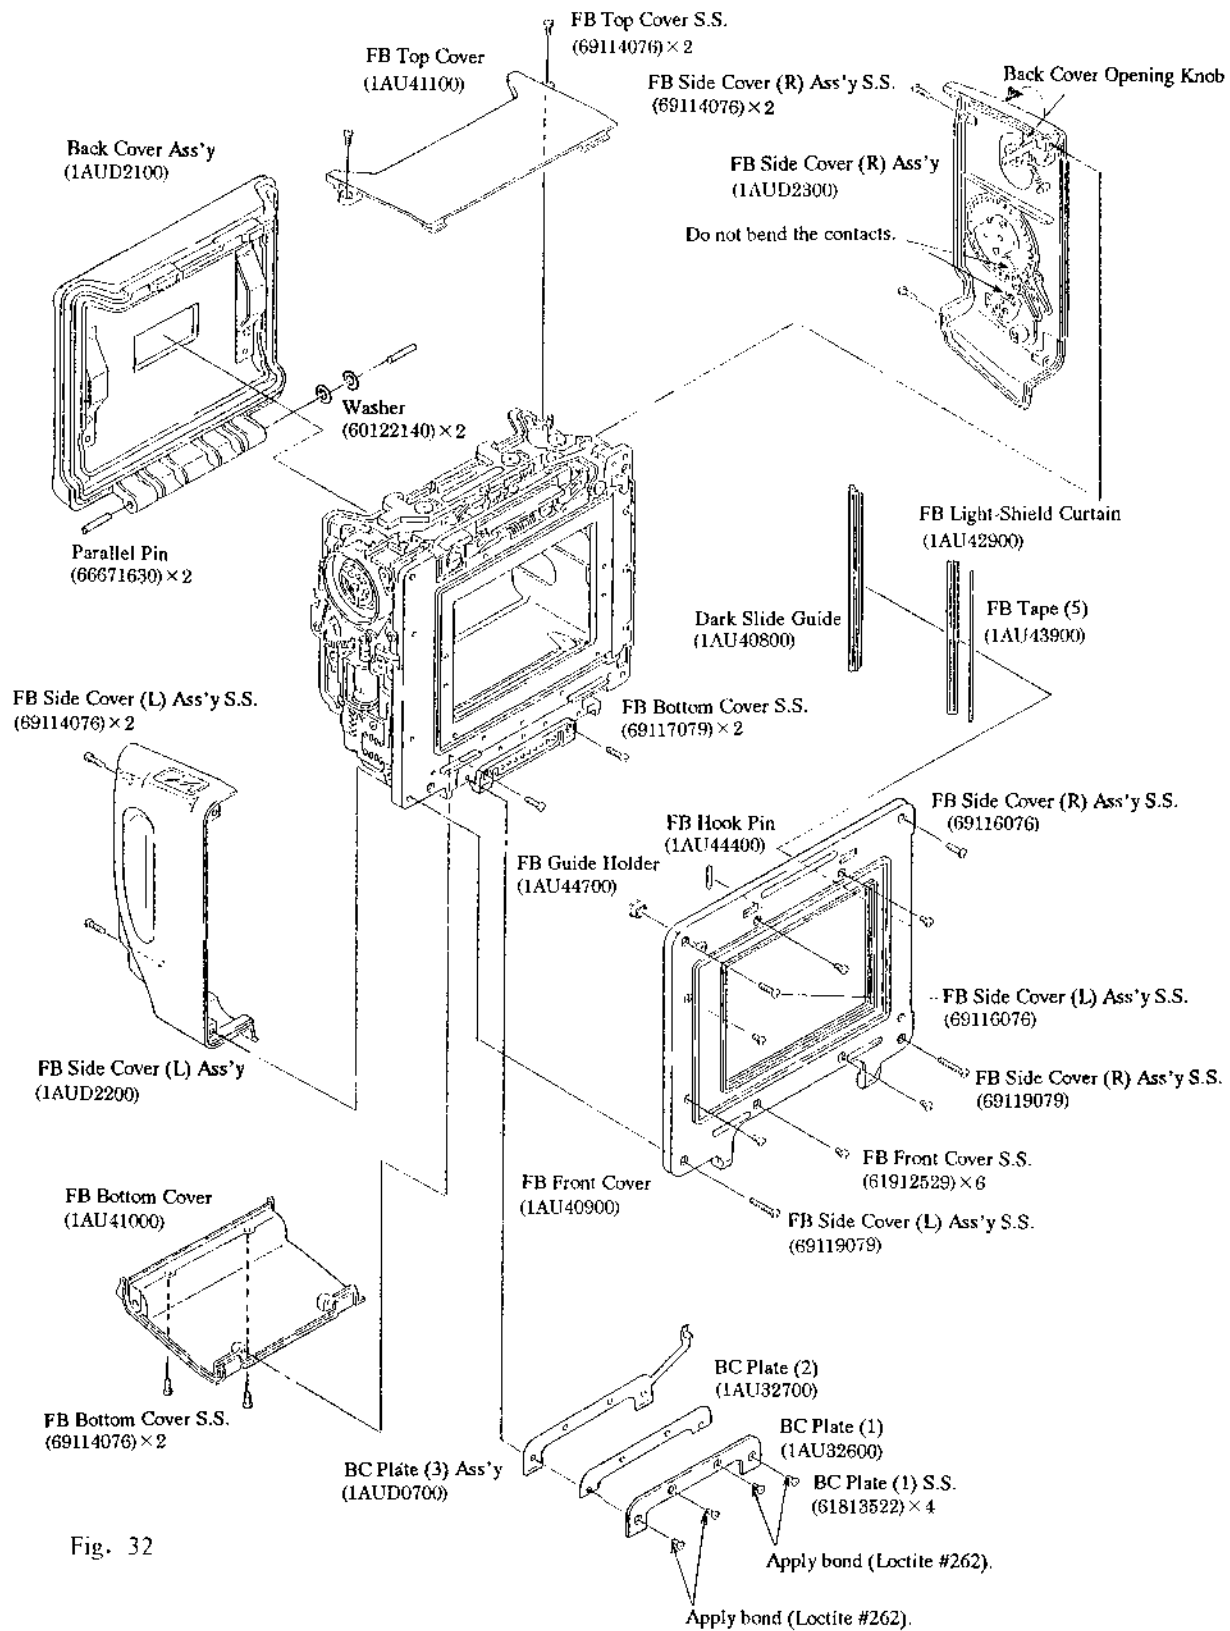

Fig. 32
- 1) While pushing the pin of the BC Plate (2) Ass'y with tweezers or the like, pull out the Dark Slide (1AU40100). (See Fig. 32)
- 2) Remove the FB Side Cover (R) Ass'y Setscrews (69119079), (69116079).
- 4) Remove the FB Side Cover (R) Ass'y Setscrews (69114076)  $\times$  2 and take off the FB Side Cover (R) Ass'y (1AUD2300).
- When the FB Side Cover (R) Ass'y (1AUD2300) has been removed, take care not to bend the ISO brush contact or the multiple exposure contact mounted on the FB Side Cover (R) Ass'y.
- 5) Remove the FB Side Cover (L) Ass'y Setscrews (69119079), (69116079).
- 7) Remove the FB Side Cover (L) Ass'y Setscrews (69115076)  $\times$  2 and take off the FB Side Cover (L) Ass'y (1AUD2200).